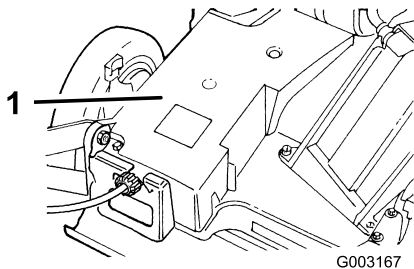

Figure 36
2. Remove the bolts that secure the belt cover (Figure 36) to the lawn mower housing.